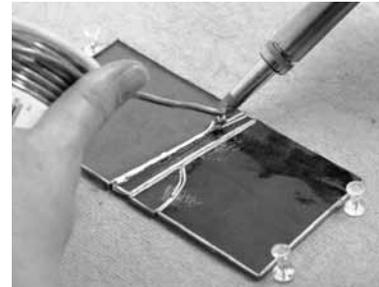

FIG. 5
- Tack solder at seam intersections by holding iron above project and allow solder to drop onto panel (FIG. 5).